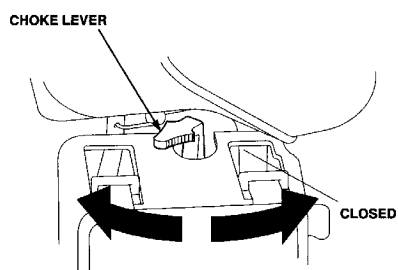

Figure 10. Engine Choke Lever (Closed)
3. Place the choke lever (See Figure 10) in the **CLOSED** position if starting a cold engine.